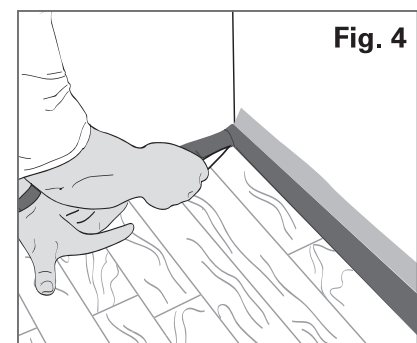

Fig. 4
5. After the flooring is installed, trim the excess underlayment back to the height of the finished floor. Do this prior to installing a base or molding (see Fig. 4).